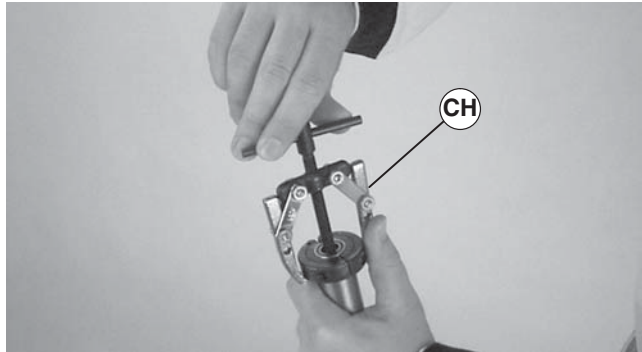

Figure 43
- Using a puller (Figure 43, item CH), remove and discard bearing(s).